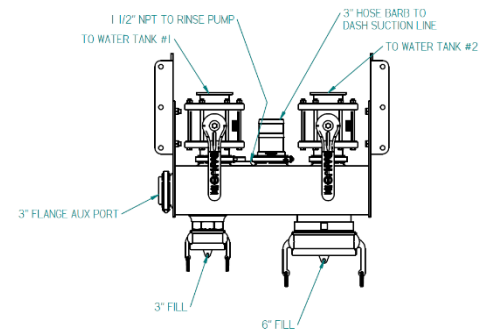

Figure 4.3-Manifold Hose Ports
3. Connect hoses to designated ports on rear of Manifold. (Figure 4.3)